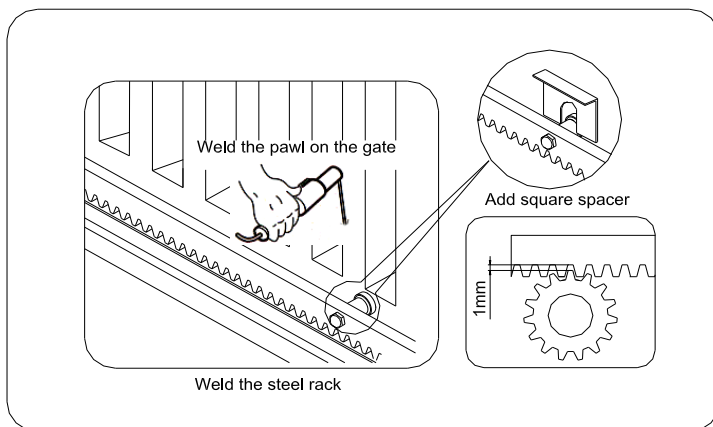

Fig.5
### **Installing the rack** (see Fig.5)
- If necessary, assemble the spacer between the rack and pawl to synchronise the teeth of the two rack elements and keep racks in a straight line. See Fig.5